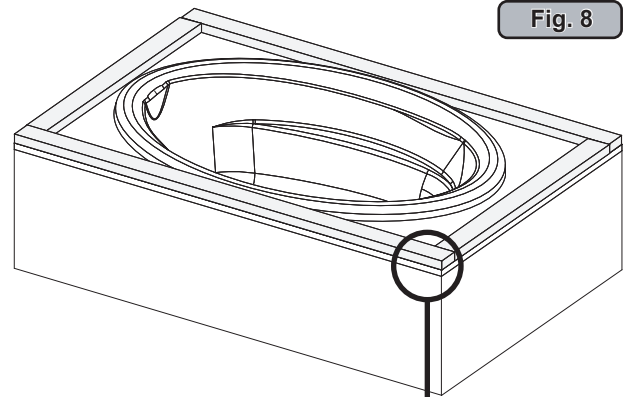

Fig. 8
3. Attach the deck/support boards to the platform using appropriate hardware (Figure 8 - inset). The deck/counter support boards must be level with the rim of the bathtub.